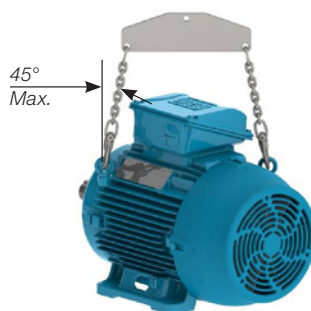

Figure 8 - Maximum resultant angle for motors with two or more lifting eyebolts.
- For motors with vertical lifting eyebolts, as shown in Figure 8, the maximum allowed lifting angle should not exceed 45° in relation to the vertical axis. We recommend using a spreader beam for maintaining the lifting elements (chain or rope) in the vertical position and thus preventing damage to the motor surface.